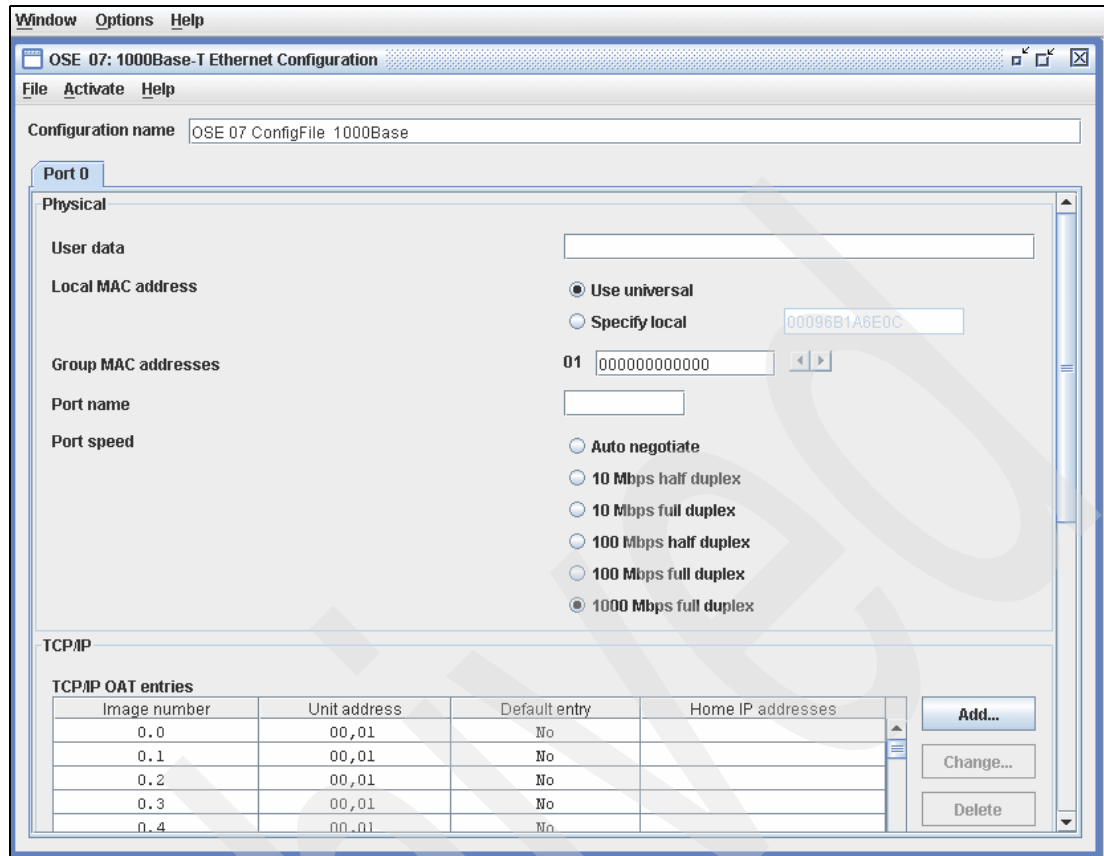

Figure 3-19 OSA/SF Workstation Interface - Current configuration
5. The CHPID configuration panel is displayed again, now with the current OSA CHPID configuration information. Fill in the Configuration name (Figure 3-19).